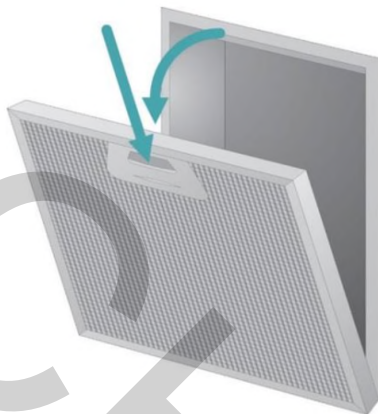

Fig.12 Remove of aluminum grease filter
1. Press the latches of grease filter and remove it. (Fig. 12)